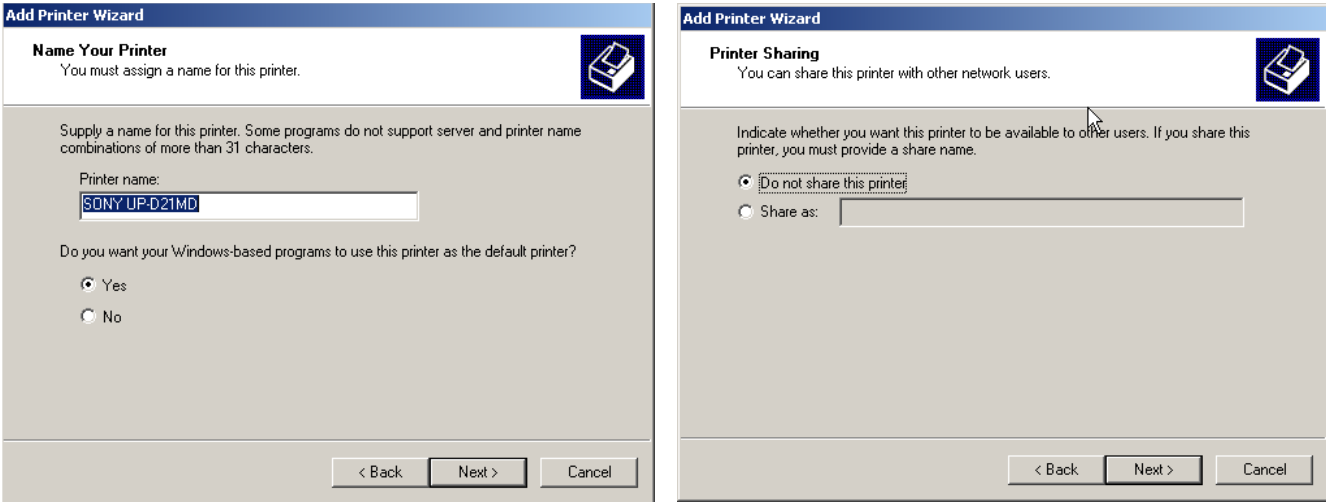

Figure 3-40 Assign name and select Printer Sharing - no
see: Figure 3-40.
- 15.)Select 'Do not share this printer' and confirm the “Printer Sharing” window (Figure 3-40) by clicking NEXT.